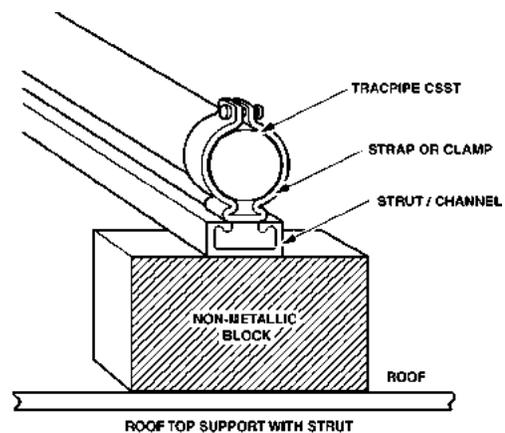

Figure 4-15
3. **TracPipe** may be supported with strut/channel running from block to block beneath the flexible gas pipe. Galvanized shallow channel (13/16") with splice plates at joints and bends provides a secure, damage resistant "track". With metallic strut support, blocks can be reduced to every 8 feet. The **TracPipe** should be firmly attached to each block with metallic clamps designed for the strut or appropriate fastening mechanism. (See Figure 4-15) Black cable ties (UV resistant) at intermediate points facilitate rolling out the **TracPipe**. The blocks are to be attached to the roof surface in accordance with the roofing manufacturer's instructions.